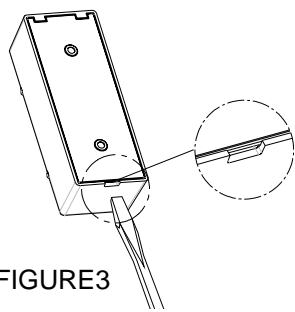

FIGURE 3
- Insert a flat bladed screwdriver into the slot at the bottom of the Push Button. Lever the cover and base apart (FIGURE 3).